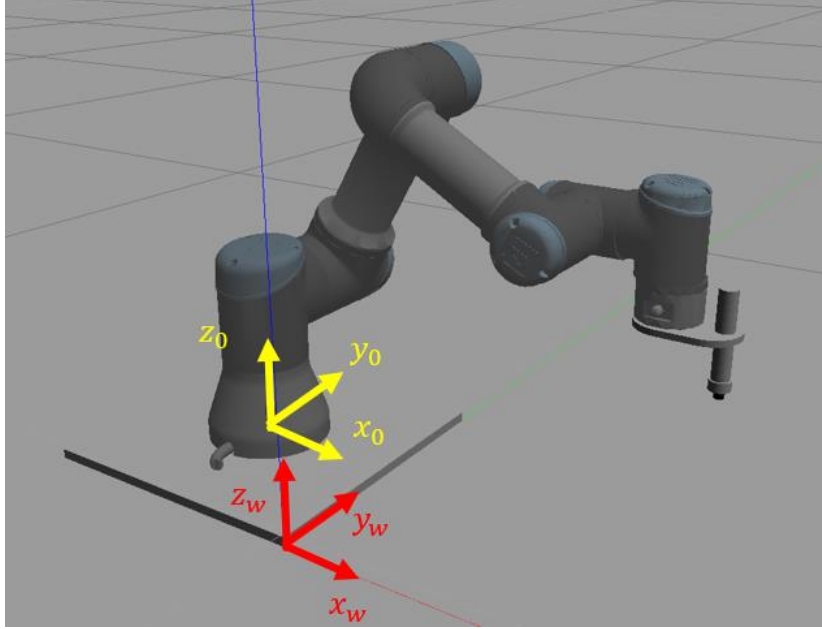

Figure 2. World frame and UR3 base frame
1. Establish the world coordinate frame (frame w) centered at the corner of the UR3's base shown in Figure 2. We will solve the inverse kinematics problem in the base frame (frame 0), so we will convert the coordinates $(x_{w-grip}, y_{w-grip}, z_{w-grip})$ entered by the user to base frame coordinates $(x_{grip}, y_{grip}, z_{grip})$. The origin of the base frame is at $(-0.15, 0.15, 0.01)$ in the world frame. Set $\theta_5 = -90^\circ$ in unit of radian.